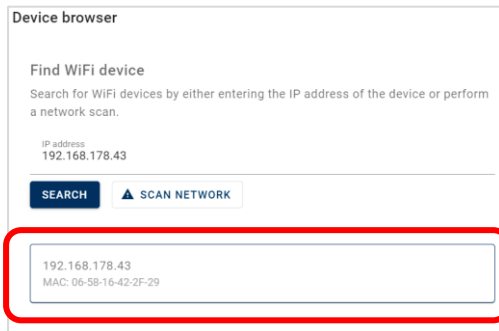

Figure 54
6. Select the tablet's IP address (Figure 54). The IP address can be found in the tablet settings. Use the tablet's search function to find. The successful connection is indicated by a green check mark.